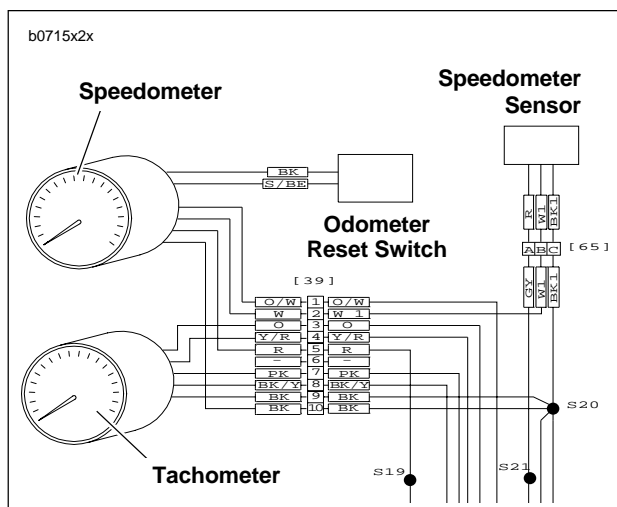

Figure 2-101. Instrument Support Wiring
- a. Apply LOCTITE THREADLOCKER 243 (blue) to both screws (6).
3. Install ignition key switch face nut (3). See 7.3 IGNITION/HEADLAMP KEY SWITCH.
4. Install indicator lights (5).
- b. See Figure 2-101. Align wire colors on indicator light housing with correct symbols on graphics panel.